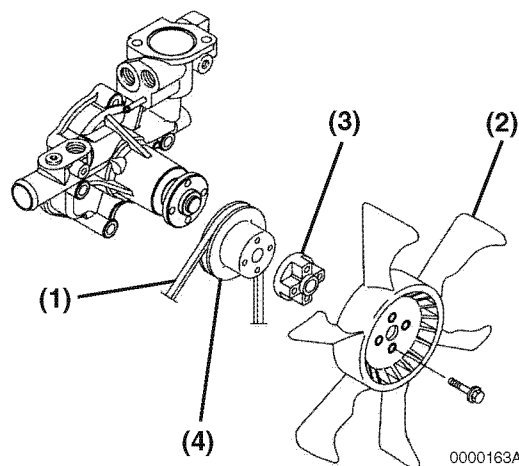

Figure 7-35
13. Reinstall the coolant pump V-pulley (Figure 7-35, (4)), spacer (Figure 7-35, (3)) (if equipped) and engine coolant fan (Figure 7-35, (2)).
14. Reinstall the cooling fan V-belt (Figure 7-35, (1)). Adjust it as described in *Check and Adjust Cooling Fan V-Belt* on page 5-10.